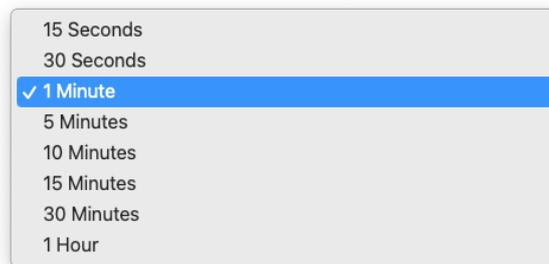

Figure 18: List of options for setting time intervals.
3. **Log Interval:** This feature allows users to choose their preferred logging interval, ranging from 15 seconds to 1 hour. Figure 18 shows a list of available logging intervals.